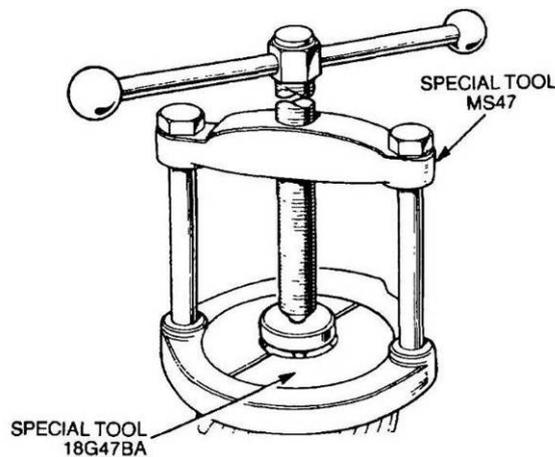

Figure 164 Removal of the Countershaft Bearing
- o. Remove the countershaft assembly from the bearing plate. Using special tools MS47 and 18G47BA remove and discard the bearing cones from the countershaft (Figure 164).